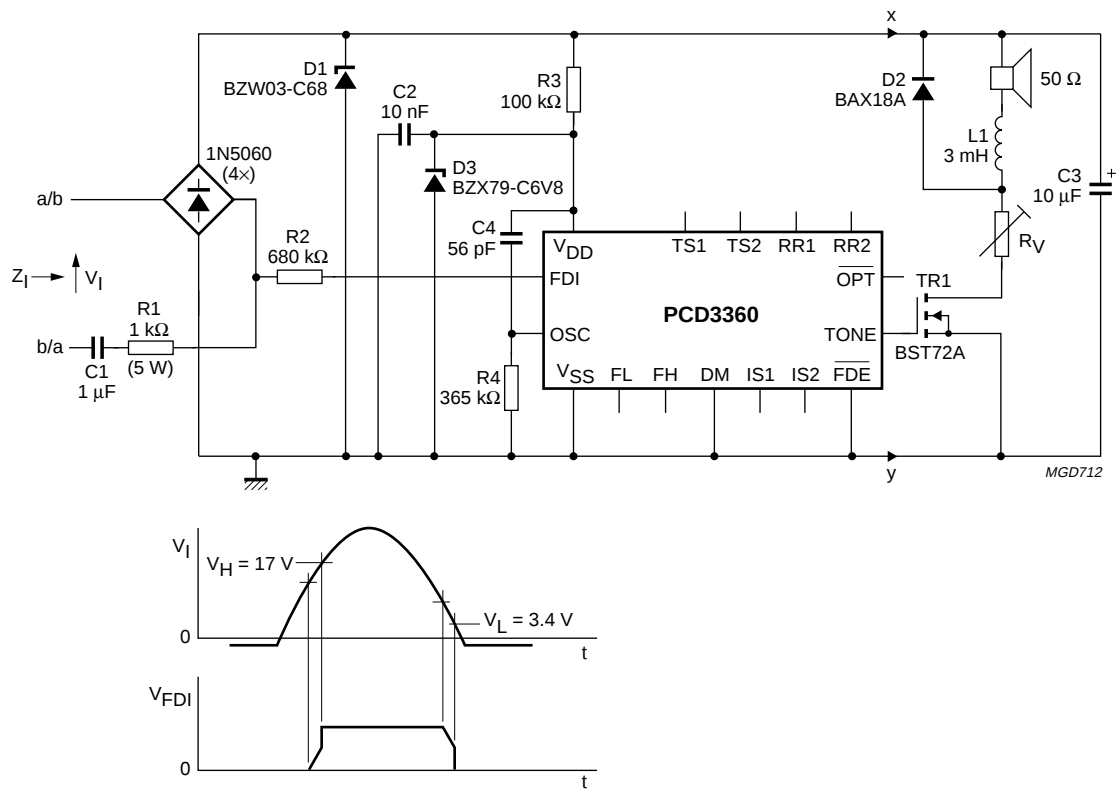
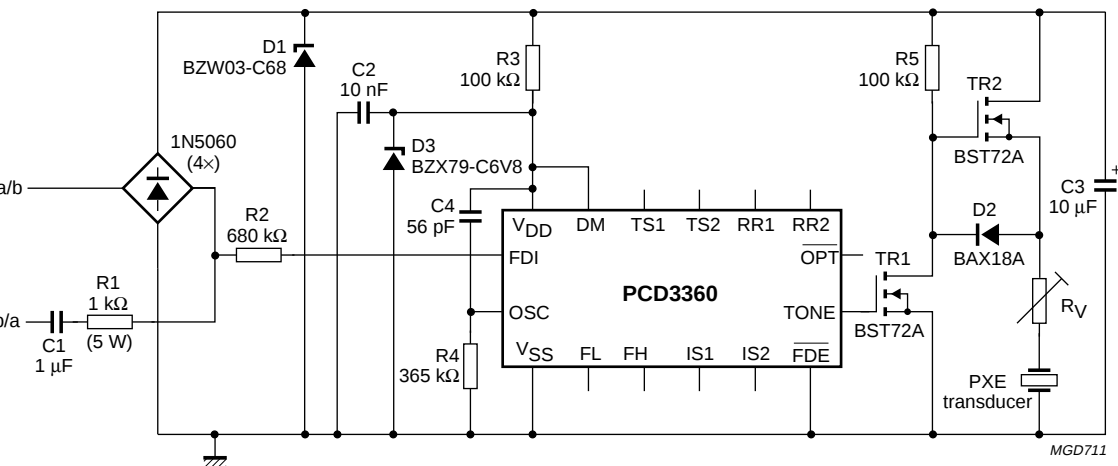

Fig.8 Transformerless electronic ringer with PCD3360 and a loudspeaker.
Fig.9 PCD3360 ringer with PXE transducer.
- $R_{OSC} = 365\text{ k}\Omega$; $C_{OSC} = 56\text{ pF}$; $\text{FDI} = \overline{\text{FDE}} = V_{DD}$; all other inputs and outputs open-circuit; see Figs 8 and 9.
Application of the PCD3360 in a telephone ringer circuit together with a loudspeaker is shown in Fig.8.
- The value of $R2$ ($680\text{ k}\Omega$ in Fig.8).
- The value of $R3$ ($100\text{ k}\Omega$ in Fig.8).
Application of the PCD3360 together with a PXE transducer is shown in Fig.9. The only significant difference between Fig.8 and Fig.9 is the output stage. Two $BST72A$ transistors provide an output voltage swing almost equal to the voltage at $C3$. Pins $IS1$ and $IS2$ are inoperative because $DM = \text{HIGH}$. Volume control is possible using resistor R_V .